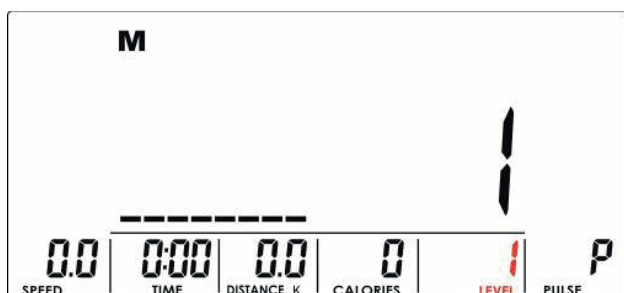

Fig. 19
2. The console displays UX (fig. 19) and starts to measure (fig. 20 to 21).